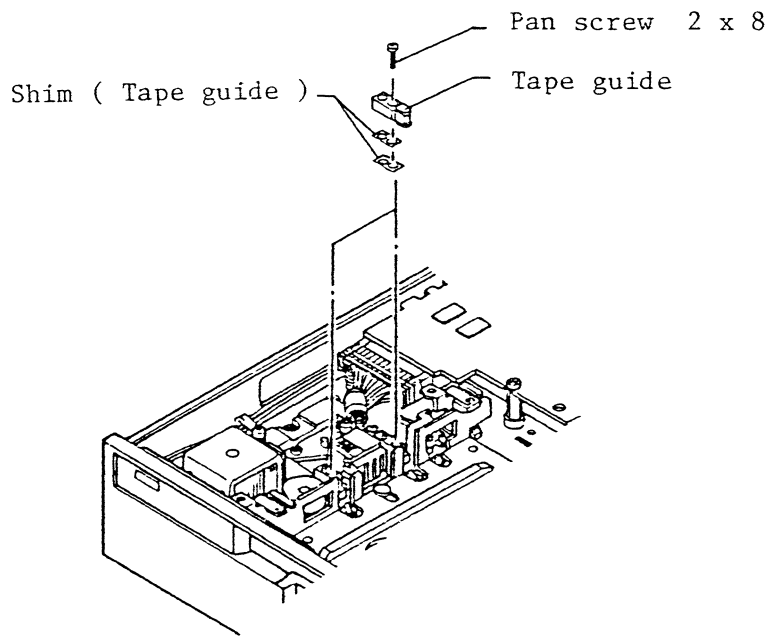

Fig.450 Replacement of head base Ass'y (1)
- (i) Remove the two mounting screws from each tape guide, and detach the two tape guides and shims (tape guide) (Fig. 450).